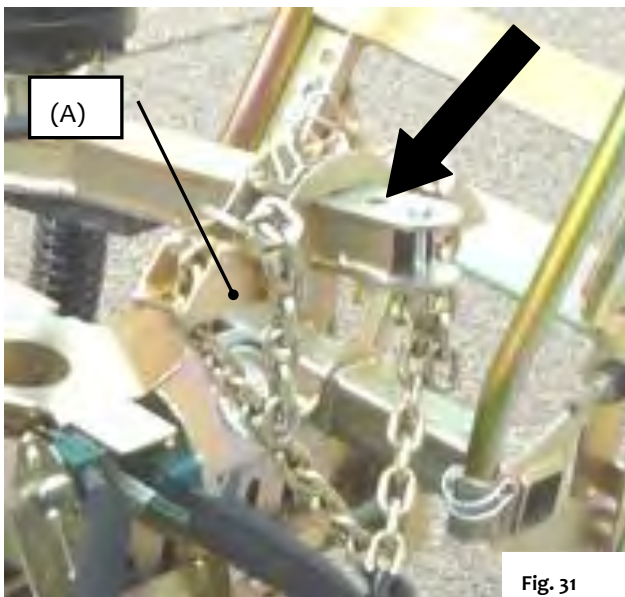

Fig. 31
Additional the position of the chain suspension (A) can be changed by using a other hole (see ↙ in Fig. 31)